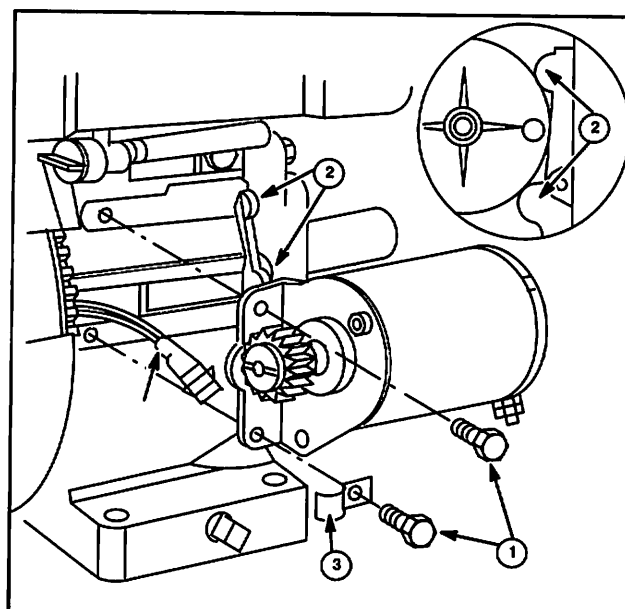

Fig. 75
10. Install starter on engine and start mounting screws(1). While holding starter against locating lugs on cylinder (2), Fig. 75, torque mounting screws to 140 in. lbs. (16 Nm).